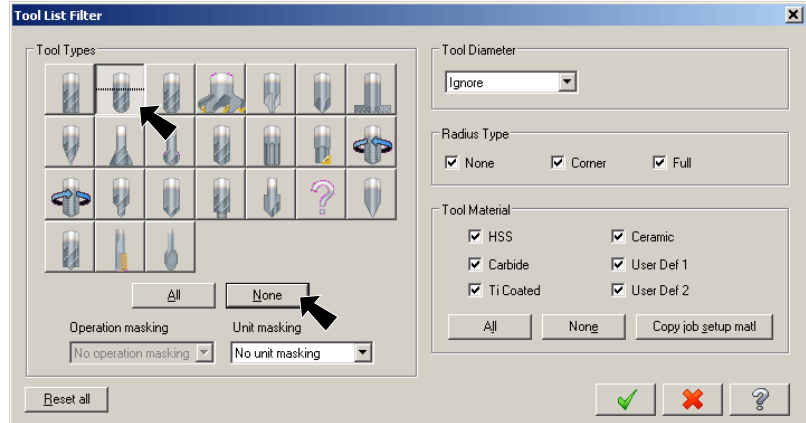

Fig. 14
Step 15. Click **None** button under **Tool Types**, **Fig. 14.**